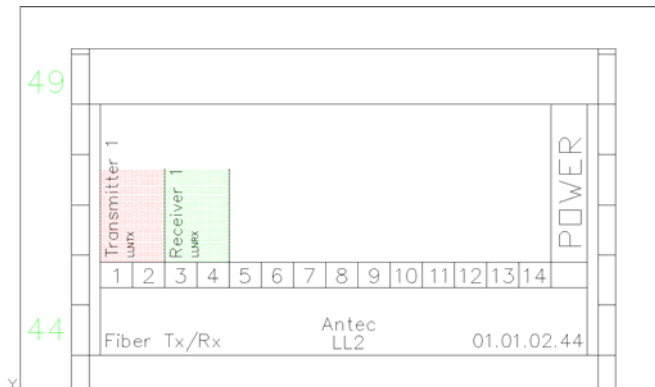

Figure 226 – New cards’ appearance in elevation view.
7. Now add an optical receiver to the same chassis by repeating items 2 to 6 above. In item 5, choose the **Antec/LINIX Optical Receiver** from the equipment dictionary and insert this card into slot 2 of the LL2 chassis.
8. The new cards should appear similar to those shown in Figure 226, below.
**Note: The symbols will not be displayed correctly if the directory containing the block files is not on AutoCAD’s support path. In this case, a symbol similar to the following will be displayed instead of that shown in Figure 226:**
9. Repeat items 2 to 7 above to create a similar pair of cards in the **Fiber Tx/Rx** chassis in the **Office Tower** building.